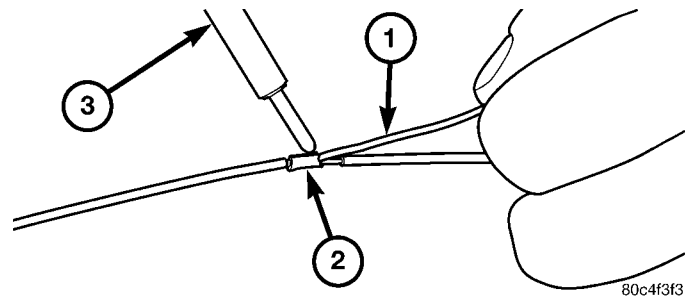

Fig. 3 SOLDER SPLICE
5. Solder the connection together using rosin core type solder only (Fig. 3).